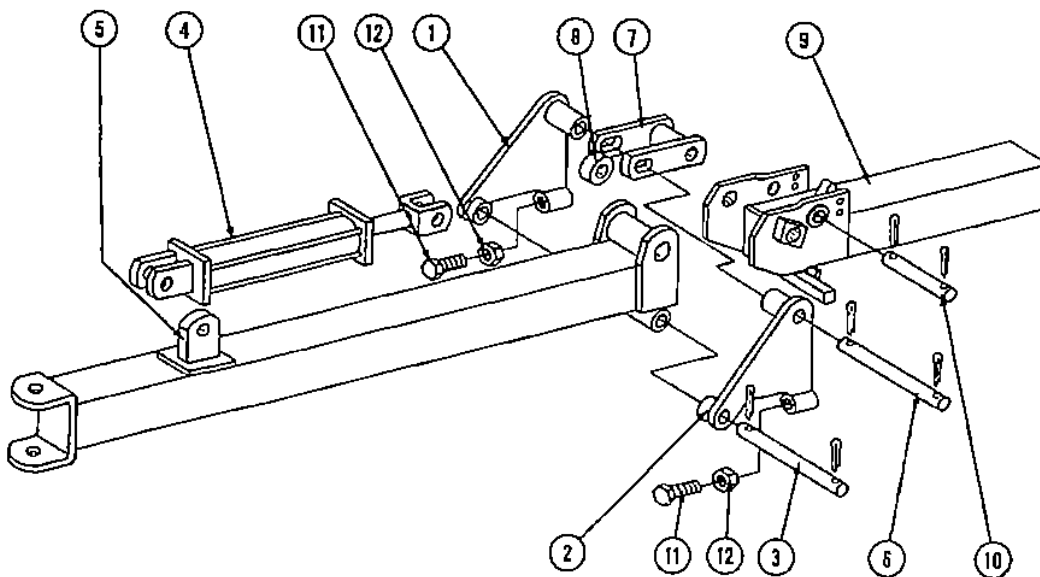

FIG. 18 — HYDRAULIC FOLDING ASSEMBLY
1. Connect the right and left hydraulic wing lock (Item 1 and 2, Fig. 18) to the gang frame by using the hinge pin (Item 3, Fig. 18). Insert the two $\frac{3}{8}$ "x2" cotter in the hinge pin to secure the right and left hydraulic wing locks.
2. Adjust the cylinder cuff to the length of $31\frac{1}{2}$ " between the pin centers. Connect the butt end of the hydraulic cylinder (Item 4, Fig. 18) to the hydraulic cylinder bracket (Item 5, Fig. 18) on the gang frame.
7. Extend the hydraulic cylinder rod to the full length. Adjust the adjustment bolts (Item 11, Fig. 18) so that they are snug on the wing lock bar. Lock the adjustment bolts into position with the jam nuts (Item 12, Fig. 18).